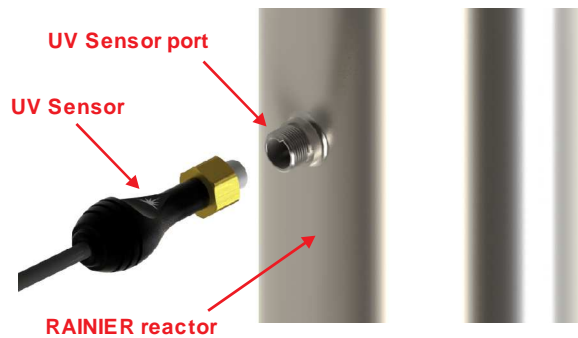
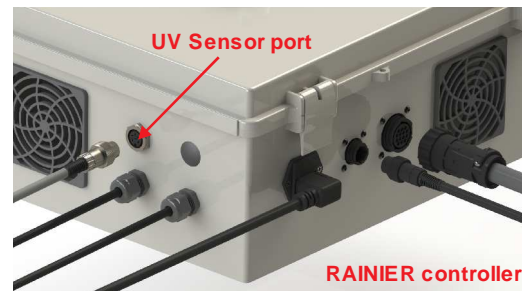

Figure 6. UV Sensor Installation
Figure 7. Sensor Connection
Step 11: (Applies only if you have a UV sensor - RAINIER^{6.0}). The UV sensor for the system is packaged in a separate plastic bag. Carefully remove the sensor from its packaging and insert the sensor into the UV sensor port (remove the protective cap on the UV reactor first). The sensor can only go in one way. Ensure that the flat portion of the UV sensor matches up with the half metal lip on the sensor port (flat portion should face the lamp connection end) (see Figure 6). Ensure that the sensor is fully seated in the sensor port and then tighten (turning clockwise) the sensor nut. **PLEASE NOTE: DO NOT** over tighten the nut as this could damage the Teflon sensor body. Plug the male connector into the sensor port located on the right side of the control panel, (see Figure 7), (make sure the control panel is not plugged in as the sensor **MUST** be attached before power is applied to the panel).